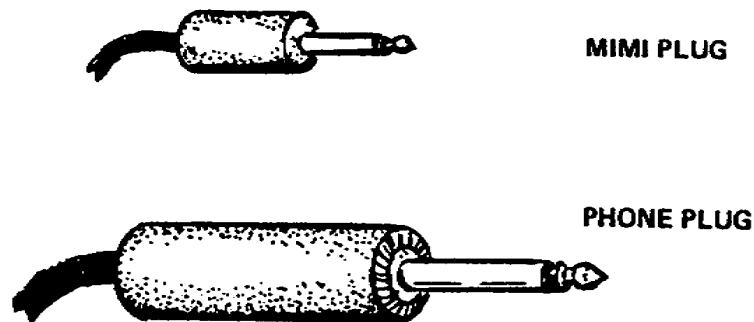

Figure 3-7. Mini plug and phone plug
a. The mini plug and the phone plug are the two familiar audio plugs. The mini plug is a smaller version of the phone plug (fig 3-7).